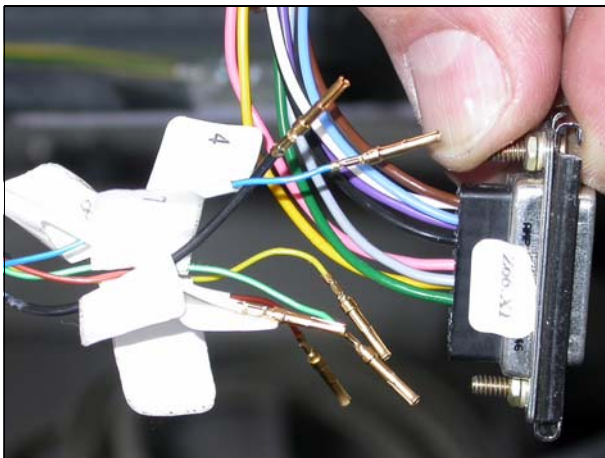

Fig. 8
- Eject all labeled contact pins from the Z66 X1 plug (Fig. 8).